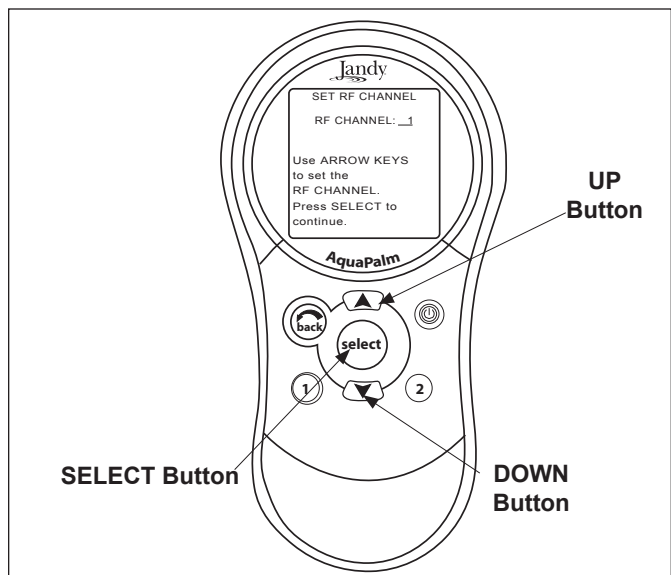

Figure 7. AquaPalm Handheld Remote Channel Setup and Buttons
2. On the AquaPalm Handheld Remote, press and hold both the UP and DOWN arrows simultaneously for three (3) seconds. After 3 seconds, the CHANNEL SETUP screen appears (see Figure 7). Select a channel.